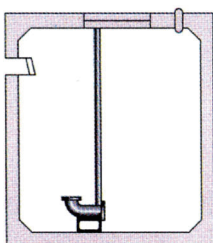

Fig.2
3. Place the discharge connector at the bottom of pit as shown on Fig.2, and fasten it with bolts onto the bottom and install the guide pipe tightly.